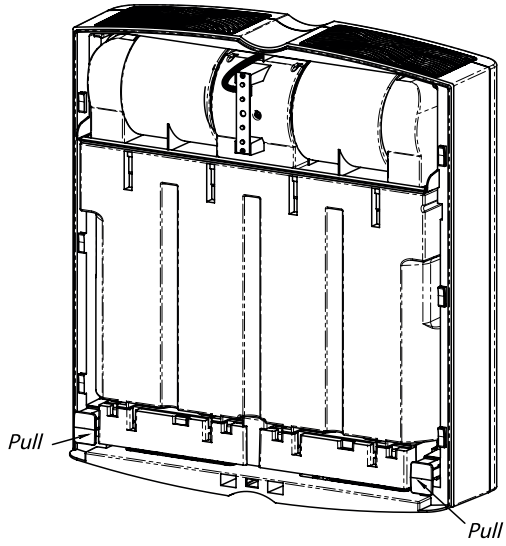

Figure 17. Latches of the filtering unit
2. Pull the latches of the filtering unit, located on the left and right sides at the bottom of the filtering unit, to click, as shown in Figure 17;